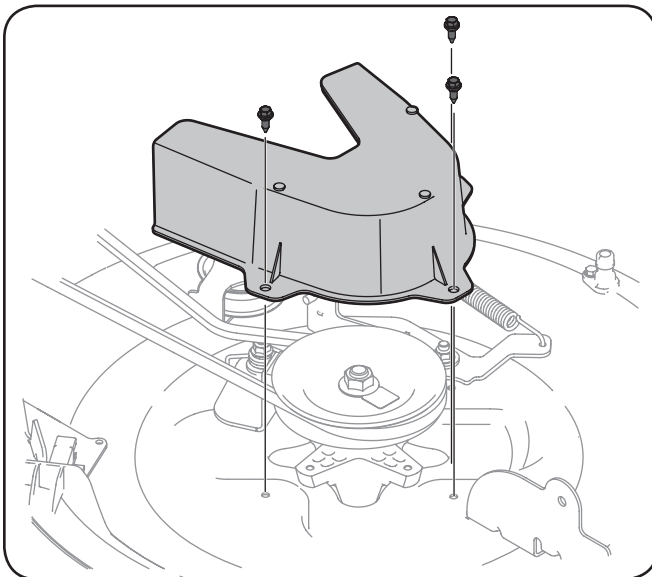

Figure 7-5
5. Remove the deck belt cover by removing the three hex bolts that secure it. See Figure 7-5.